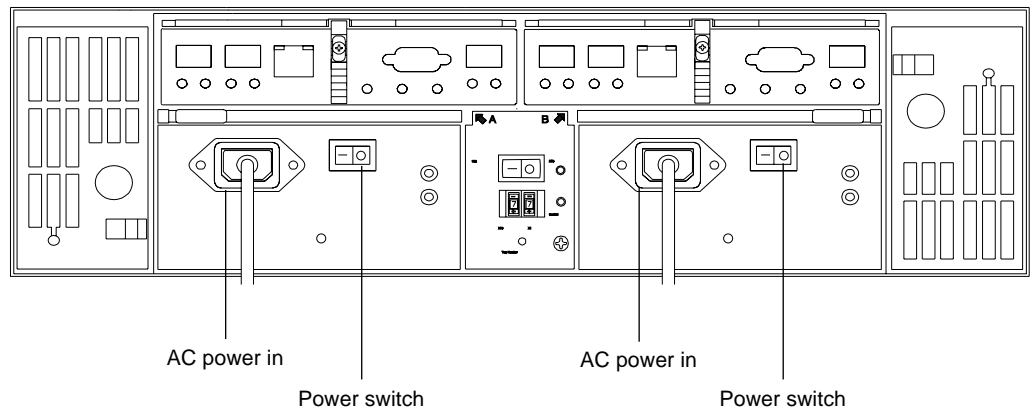

Figure 5-8 Power Connections and Switches of the Enclosures
3. Plug the power cords into each power supply of the storage enclosures (see “AC power in” in Figure 5-8). Plug the left-side power cords into the left PDU and plug the right-side power cords into the right PDU.
6. Turn on both power switches on the rear of each expansion enclosure. Then turn on both power switches on the rear of the controller enclosure (see Figure 5-8).